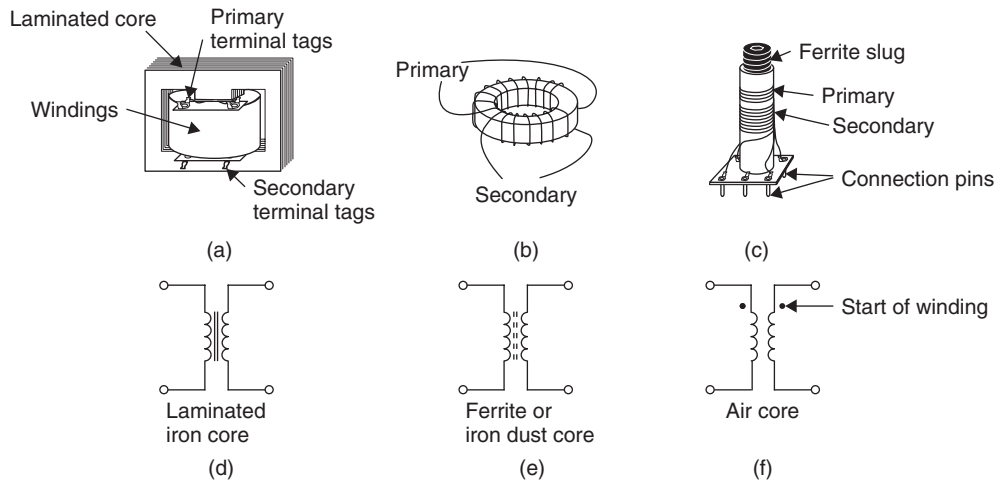

Figure 27.1 Transformer types and symbols
Some typical construction methods for transformers are illustrated in Figure 27.1. Type (a) would be used for general-purpose mains and audio frequency work. A typical toroid for radio frequency (RF) use is shown in Figure 27.1(b) and a variable solenoid typical of an intermediate-frequency transformer in a radio receiver in Figure 27.1(c). The symbols used in circuit diagrams are shown in Figure 27.1(d–f). The type of core is indicated by the lines between the windings, while no lines indicates an air core.